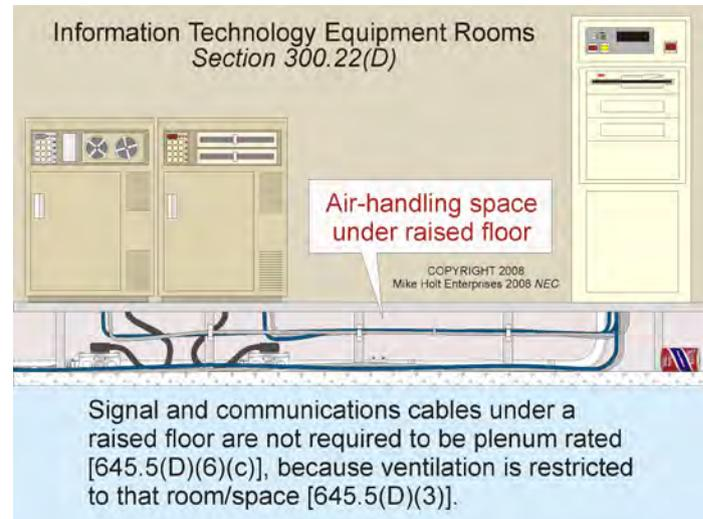

Figure 300-47
(D) Information Technology Equipment Rooms. Wiring in air-handling areas under a raised floor in an information technology room must comply with 645.5(D). **Figure 300-47**